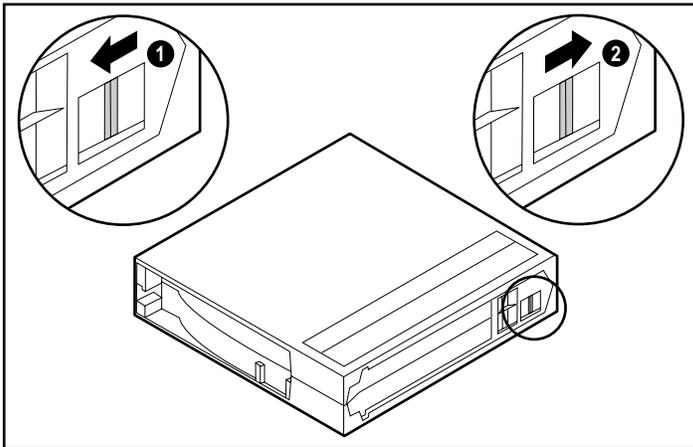

Figure 3-3. Cartridge write-protect switch
The cartridge has a write-protect switch to prevent accidental erasure of data. Before loading the cartridge into the drive, position the write-protect switch on the front of the cartridge. Figure 3-3 illustrates using the write-protect switch. By moving the switch to the left ❶, the cartridge is write-protected, and by moving the switch to the right ❷, the cartridge is write-enabled.